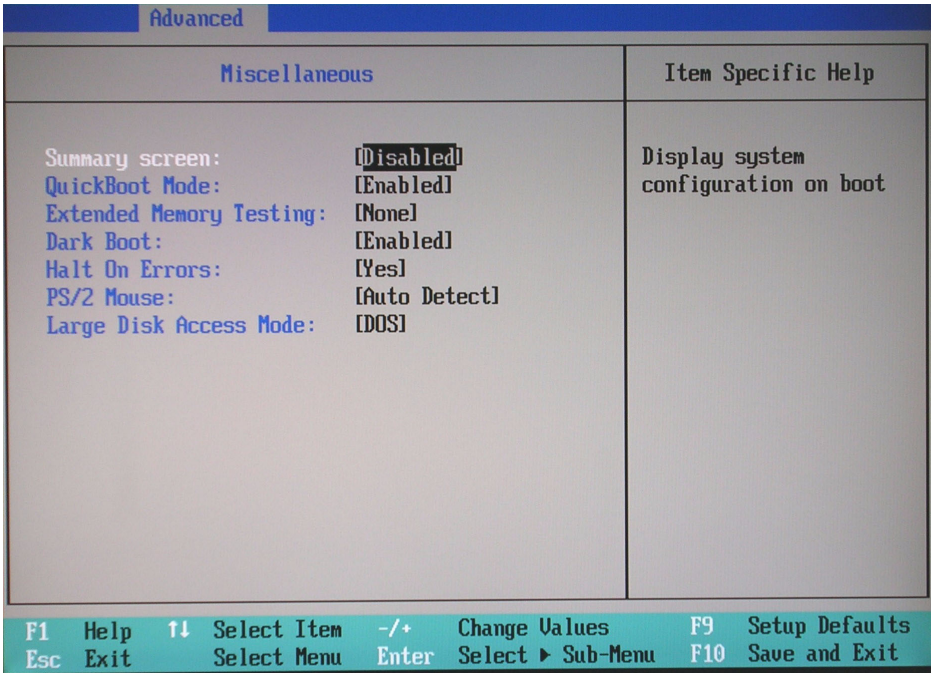

Figure 8-118 BIOS Advanced Miscellaneous Parameters
Miscellaneous	Figure 8-118 on page 8-114
- 27.) Set the parameters in the **Miscellaneous** screen as shown above in Figure 8-118.